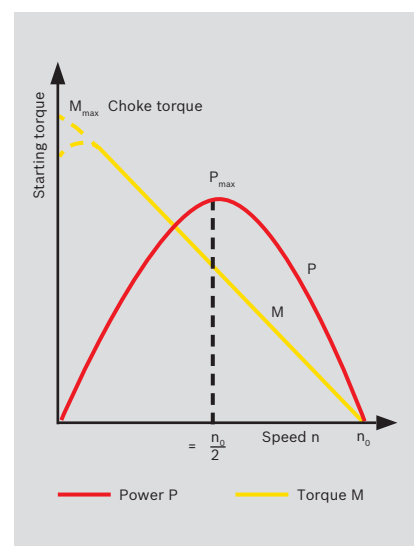

Fig. 1 Characteristic curves of an air motor
- ▶ The air motor has constantly favourable torque behaviour for different applications. With increasing load and decreasing speed, the torque rises to a maximum at standstill (Fig. 1) – this is utilised, for example, in screwdrivers.